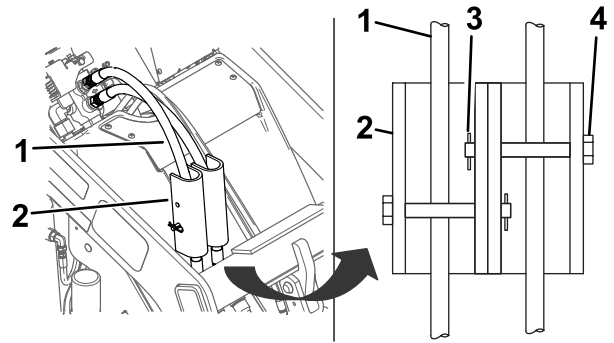

Figure 26
7. Install the cylinder locks over the hydraulic hoses and secure them with the clevis pins and cotter pins (Figure 26).